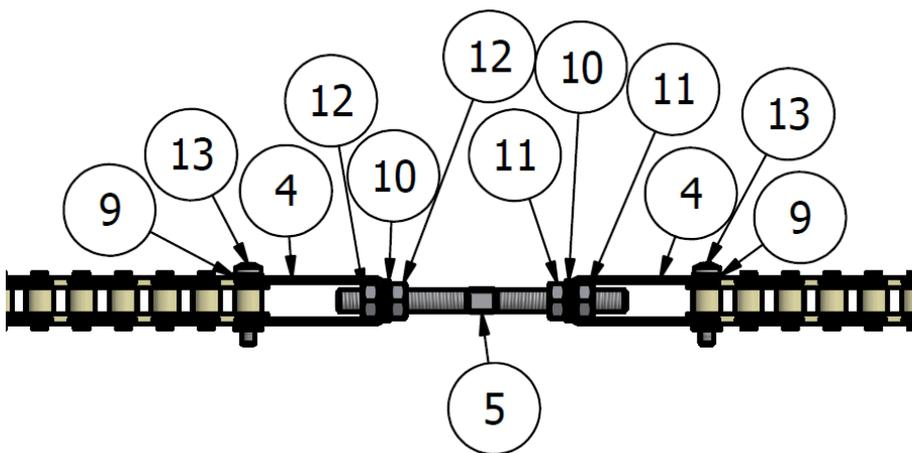

Figure 7: Stud Bolt
The tension of the chain can be changed by rotating the stud bolt (5) with left and right thread, see *Figure 7: Stud Bolt* on page 13.
After adjusting, nuts (11) and (12) must be secured, see *Figure 7: Stud Bolt* on page 13.